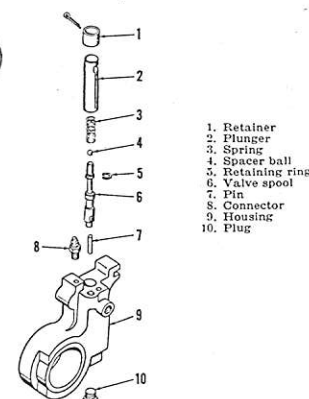

Fig. 261—Exploded view of modulating valve, valve housing and associated parts.
To disassemble the modulating valve (parts 1 through 6—Fig. 261) apply slight pressure while unseating the internal expanding snap ring (5). Pin (7) is used in early models only.